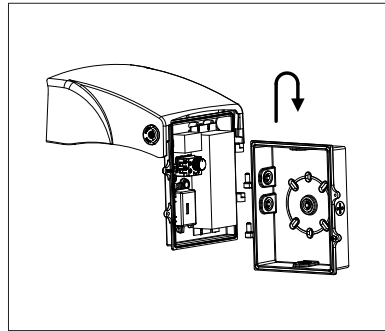
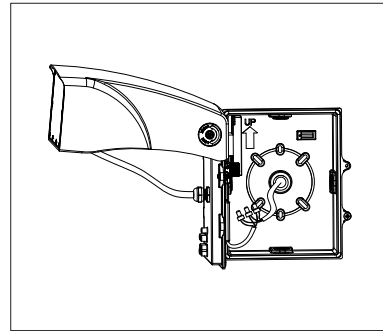

Figure 10
Figure 11
STEP 7: Fasten the radiator to the driver box and connect the wires properly (Figure 10 & Figure 11)